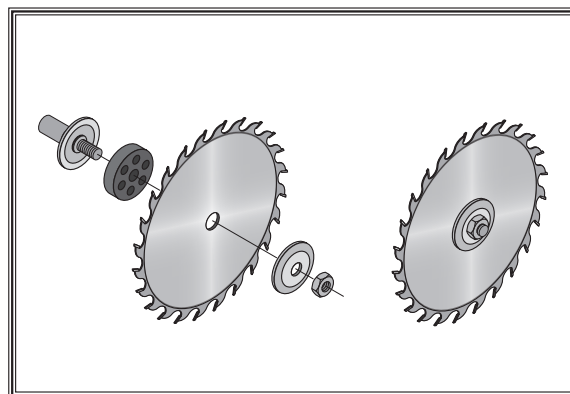

Figure 62. Main blade installation and order of assembly.
7. Install the blade as shown in **Figure 62**, making sure the teeth face forward toward the scoring blade. DO NOT overtighten the arbor nut.